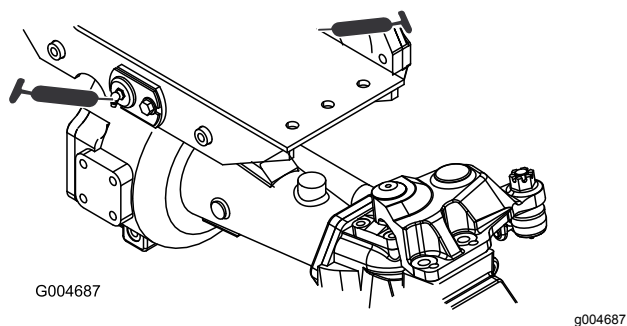

Figure 57
- 2 front and rear-axle-pivot bushings (Figure 57)